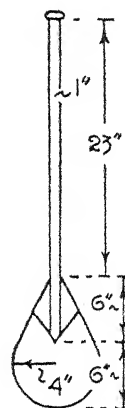

Fig. 4 The paddle
The paddle is made from a length of 1 in. or $1\frac{1}{2}$ in. square oak or ash. A $\frac{1}{2}$ in. slot is cut 6 ins. up the centre of one end for the plywood blade (see Fig. 4) which is glued and nailed in place. Side pieces of wood are affixed on both sides to the thickness of the shaft.
Fig. 4 shows a simple fork and (5a) indicates a very useful item—a candle holder for the pole. Sketch (6) shows a more elaborate and better form of the holder.